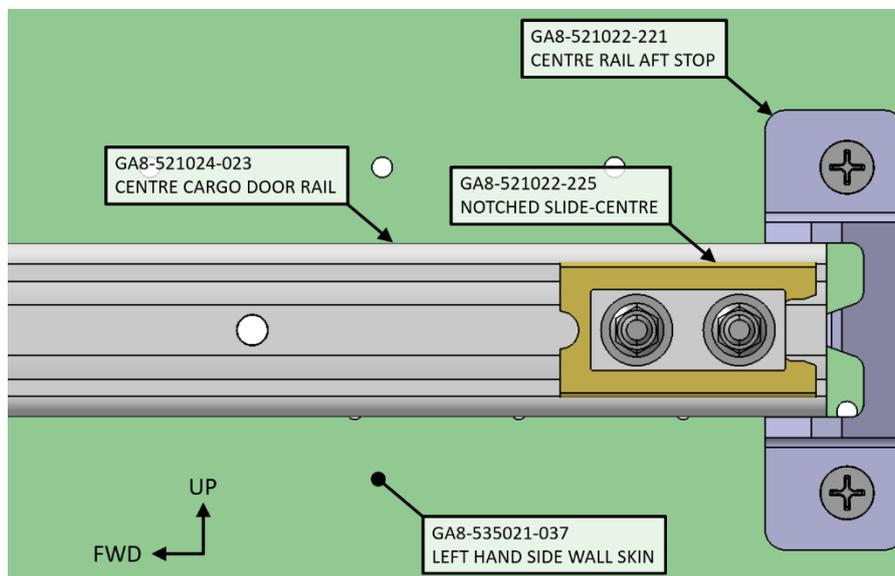

Figure 22: Correct orientation of the Forward Cargo Door Guide Assembly. View looking at the exterior surface of the aircraft's port side fuselage wall.
1. Inspect the aircraft to see if a centre rail aft stop is fitted (Figure 22). If a stop is fitted, no further action is required. If a stop is **NOT** fitted, do the remaining steps of this part.
9. Replace the existing Slide-Centre (P/N: GA8-521022-149) and Backing Plate (if fitted, P/N: GA8-521022-151) with the Notched Slide-Centre (P/N: GA8-521022-225) and Notched Backing Plate (P/N: GA8-521022-227). Alternatively, if the existing Slide-Centre and Backing Plate components are in an acceptable condition, they may be modified to include the notched feature as per PART D2. Figure 22 shows the correct orientation in which the Forward Cargo Door Guide Assembly should be installed. Note that a replacement split pin is included in the SB-GA8-2005-23-04 kit (refer to Table 6).